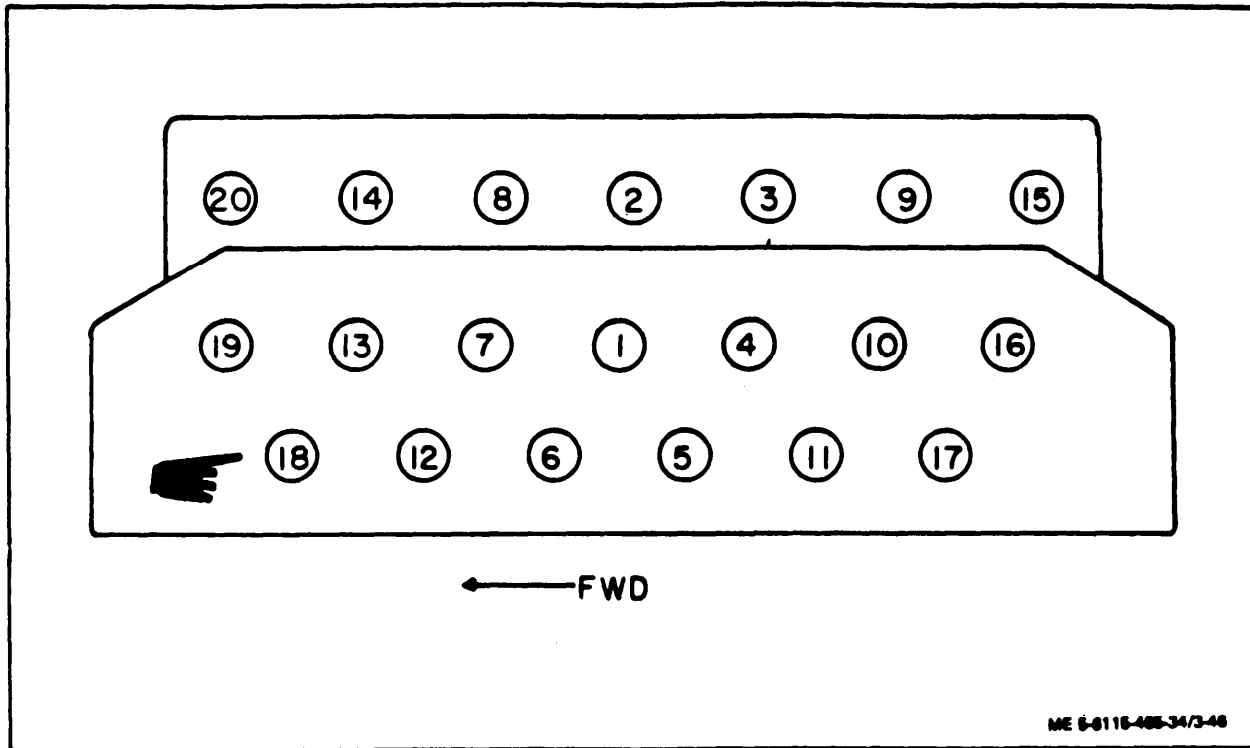

Figure 3-47. Cylinder Head Nut Tightening Sequence
(1) Install cylinder head and rocker arm assembly in reverse order of removal procedures.
(2) Tighten nuts to 75 lb-ft torque following the sequence of figure 3-47.
(3) Repeat the sequence, tightening each nut to 125 lb-ft torque.
(4) Again repeat the sequence, tightening each nut to a final torque of 160 ft.lbs. For 9/16 DIA. studs and 175 ft.-lbs. for 5/8 DIA. studs, as specified in Paragraph 1-6 v.